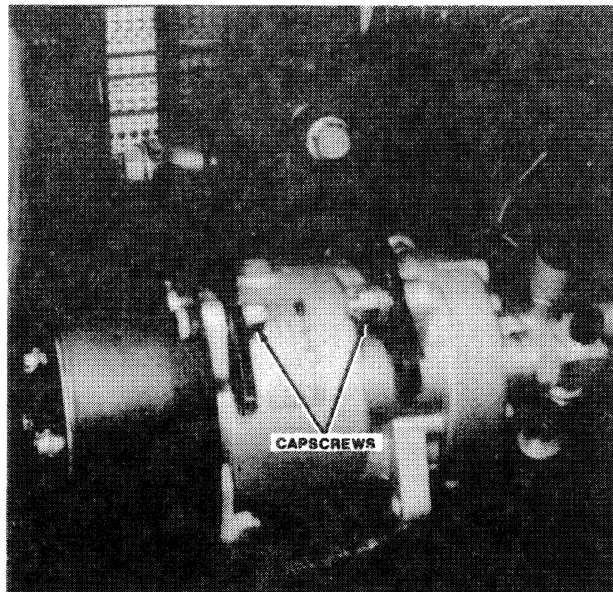

FIGURE 2-9: A/C Compressor Removal
12. Loosen A/C compressor capscrews and remove drive belt. Remove compressor from mounting bracket with hoses still attached (Figure 2-9).
10. Install A/C compressor and drive belt (Figure 2-9). Tighten belt so deflection is 10 to 12 mm (3/8 to 1/2 in.).